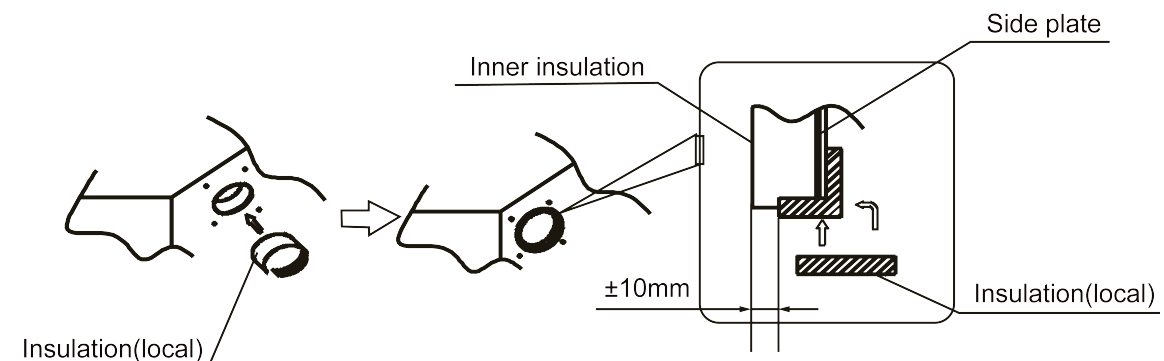

fig. 12.5
- Put the insulation tightly around the hole of the unit as shown. The ends of the side plate and the inner insulation must be completely adhered without leaving any clearance along the circumference of the hole. Make sure the inner surface of insulation tightly contacts the inner insulation edge and the side plate. (refer to fig.12.5)